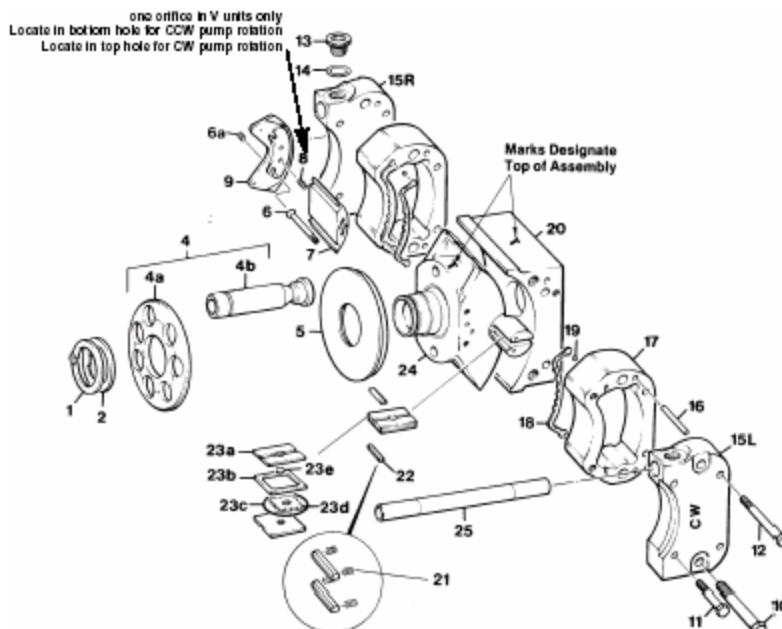

Figure 3
PARTS LIST FOR FIGURE 3 rocker cam, pistons and retainer
CAM/CRADLE ASSEMBLIES items 6 through 24, figure 3
PISTON/SHOE/RETAINER ASSEMBLIES item 4 figure 3
See Figure 3. Position the cradle (20) on a clean flat surface with the large flat area down.
Install assembled cartridge in slot in cam as indicated in figure 3. Repeat on opposite side of cam.
For "P" and "D" units, install two orifice screws (8) in the servo stem (7). For "V" units, install one orifice, as indicated in Figure 3.